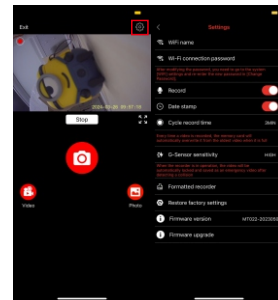

Figure 10
5.8 In the page for recording video, click the icon in right upper corner to get into setup page for camera parameters, please set up according to your demands. (See Figure 10)